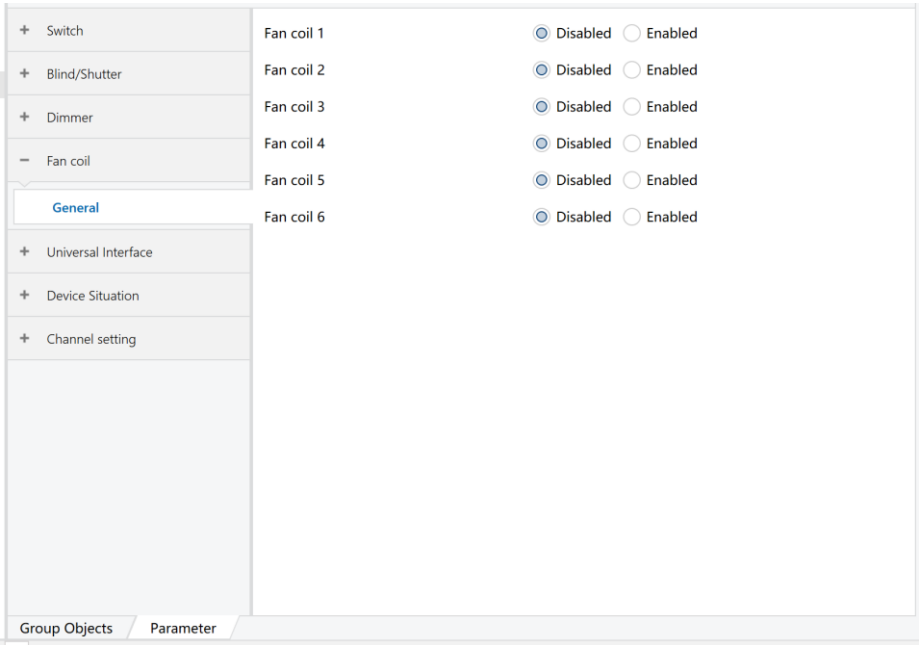

Figure 6.4.1
1) As shown in Figure 6.4.1, the "Fan coil" fan function module has 12 Channels, and the options are: "Disabled" to enable, "Enabled" to disable